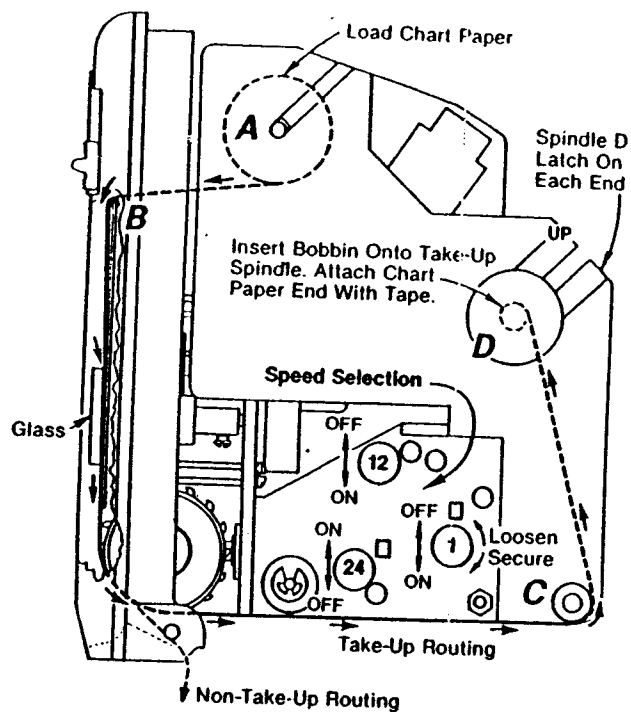
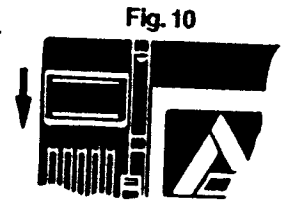

Fig. 9
Fig. 10
3. To Insert or remove chart paper, place recorder in horizontal position and press the release button in the direction shown in fig. 10. Raise recorder mechanism to a vertical position until it locks. Remove feed shaft (A) (see fig. 9) and place chart roll on spindle. Remove tape on roll and retain tape for securing chart on take-up spindle (D). Unroll about 12" to 15" and route paper over top edge of scale plate (B) underneath glass, over the sprocket wheels, to the rear and over the idle roller (C) up to the cardboard bobbin mounted on take-up spindle (D). Secure edge of chart to bobbin with tape. Make sure the sprocket holes in the paper engage the sprocket wheels. Be
sure that feed control is tight and in the right position. The word "ON" must be visible. Press in the idle roller extension © to allow the recording mechanism to move back down into case and lock into position. Replace cover by positioning the "U" bend onto the plastic projections and snap front down. Make sure chart paper is not binding with the cover in place. For "non-take-up" recording, route chart through bottom slot as shown in fig. 9.
1. To select chart speed, energize recorder with proper line voltage and frequency. Raise recorder to vertical position (see loading and unloading chart paper on take-up models). Move chart drive switch to "ON" position exposing the word "ON". Make sure switch clicks into detent (see fig. 11). Set all three speeds to "OFF" position and tighten (see fig. 9). Move desired speed knob (1, 12 or 24) to "ON" position. Tighten while keeping pressure on gear mechanism.
2. Press in the idle roller extension © to allow the recording mechanism to move back down into the case and lock into position. Replace cover by positioning the "U" bend onto the projections above the chart well opening. Make sure chart paper is not binding with the cover in place. For "non-take-up" recording route chart through bottom slot as shown in figure 9.